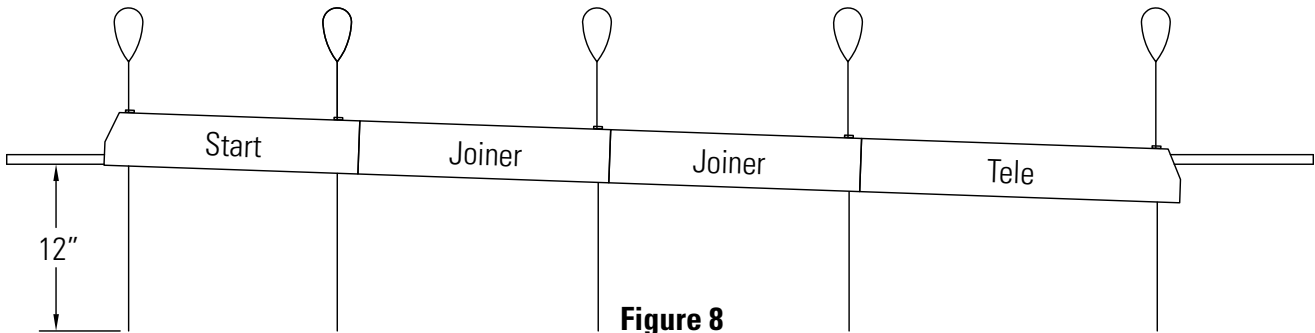
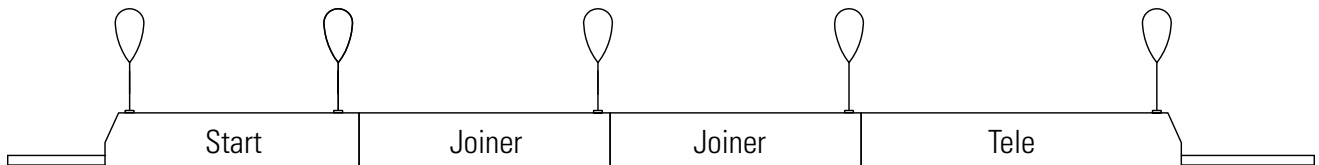

Figure 8
Figure 9
10. Slowly raise starter fixture 1 inch and continue along the entire row. (Fig. 8) Repeat lifting procedure until the whole row is snug against ceiling. (Fig. 9) Slide splines to be centered between two fixtures and secure with supplied hardware. Do not move splines prior to this step in the installation procedure. Push left over cable into fixture behind reflector.